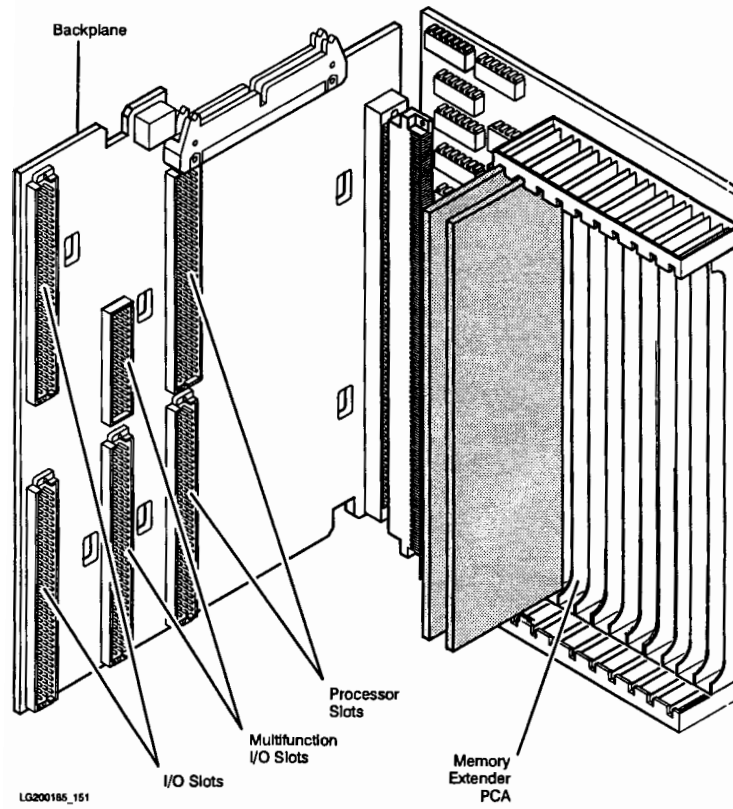

Figure 8-48. 64 MHz Memory Extender and Memory PCA Removal
2. Figure 8-48 shows Memory PCAs on the 64 MHz backplane and a partially populated Memory Extender. Note there is no memory on the 64 MHz backplane.